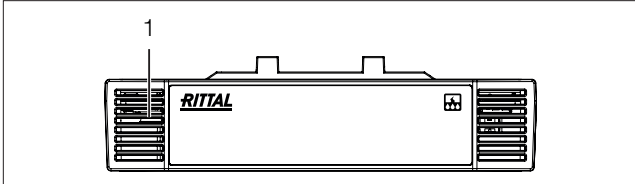
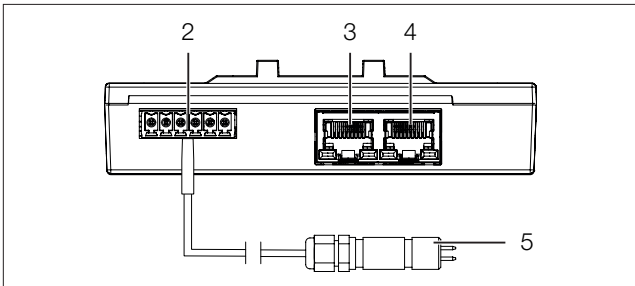

Fig. 13: Front of the leak point sensor
Fig. 14: Rear of the leak point sensor
A multi-LED for the status display is integrated into the front of the leak point sensor (fig. 13, item 1). Further LEDs are located at the rear on the CAN bus connection (fig. 14, item 3 and 4).